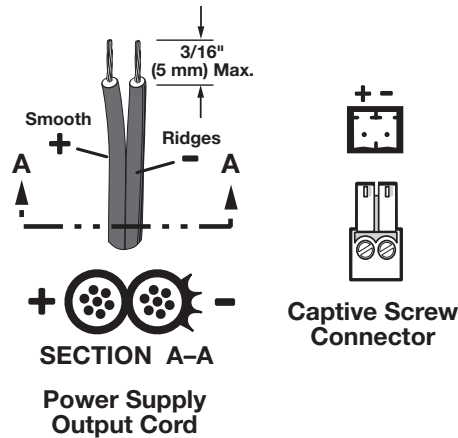

Figure 10. Power Connector Wiring
Figure 10 shows how to wire the connector. Snap the provided ferrite bead onto the DC power cable, between the power supply and the connector on the unit.
- Power supply voltage polarity is critical. Incorrect voltage polarity can damage the power supply and the unit. The ridges on the side of the cord (see figure 10) identify the power cord negative lead.